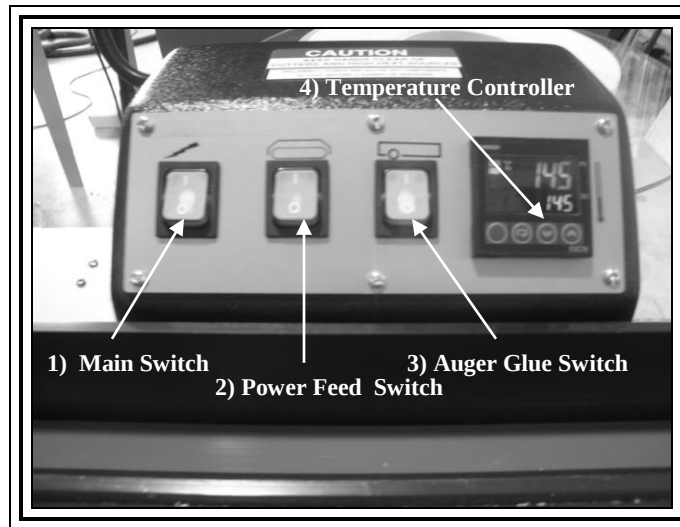

FIGURE 13
5. Control Panel (Figure 13)
The Control Panel functions **Figure 13** from left to right.